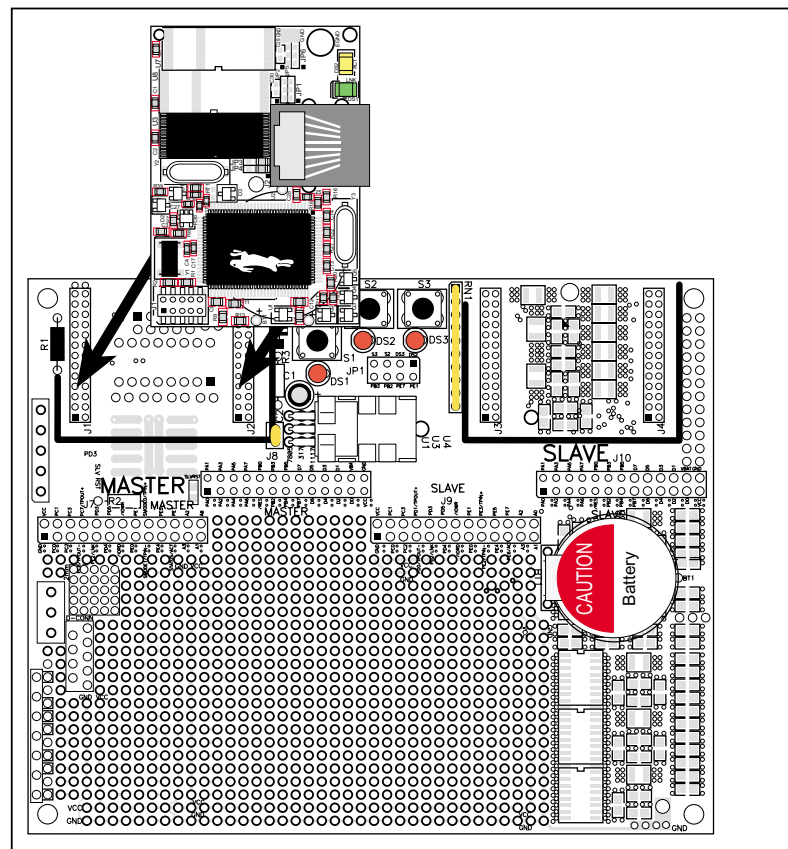

Figure B-1. Install the RCM2200 on the Demonstration Board
1. Connect the RCM2200 to the **MASTER** position on the Demonstration Board as shown in Figure B-1.